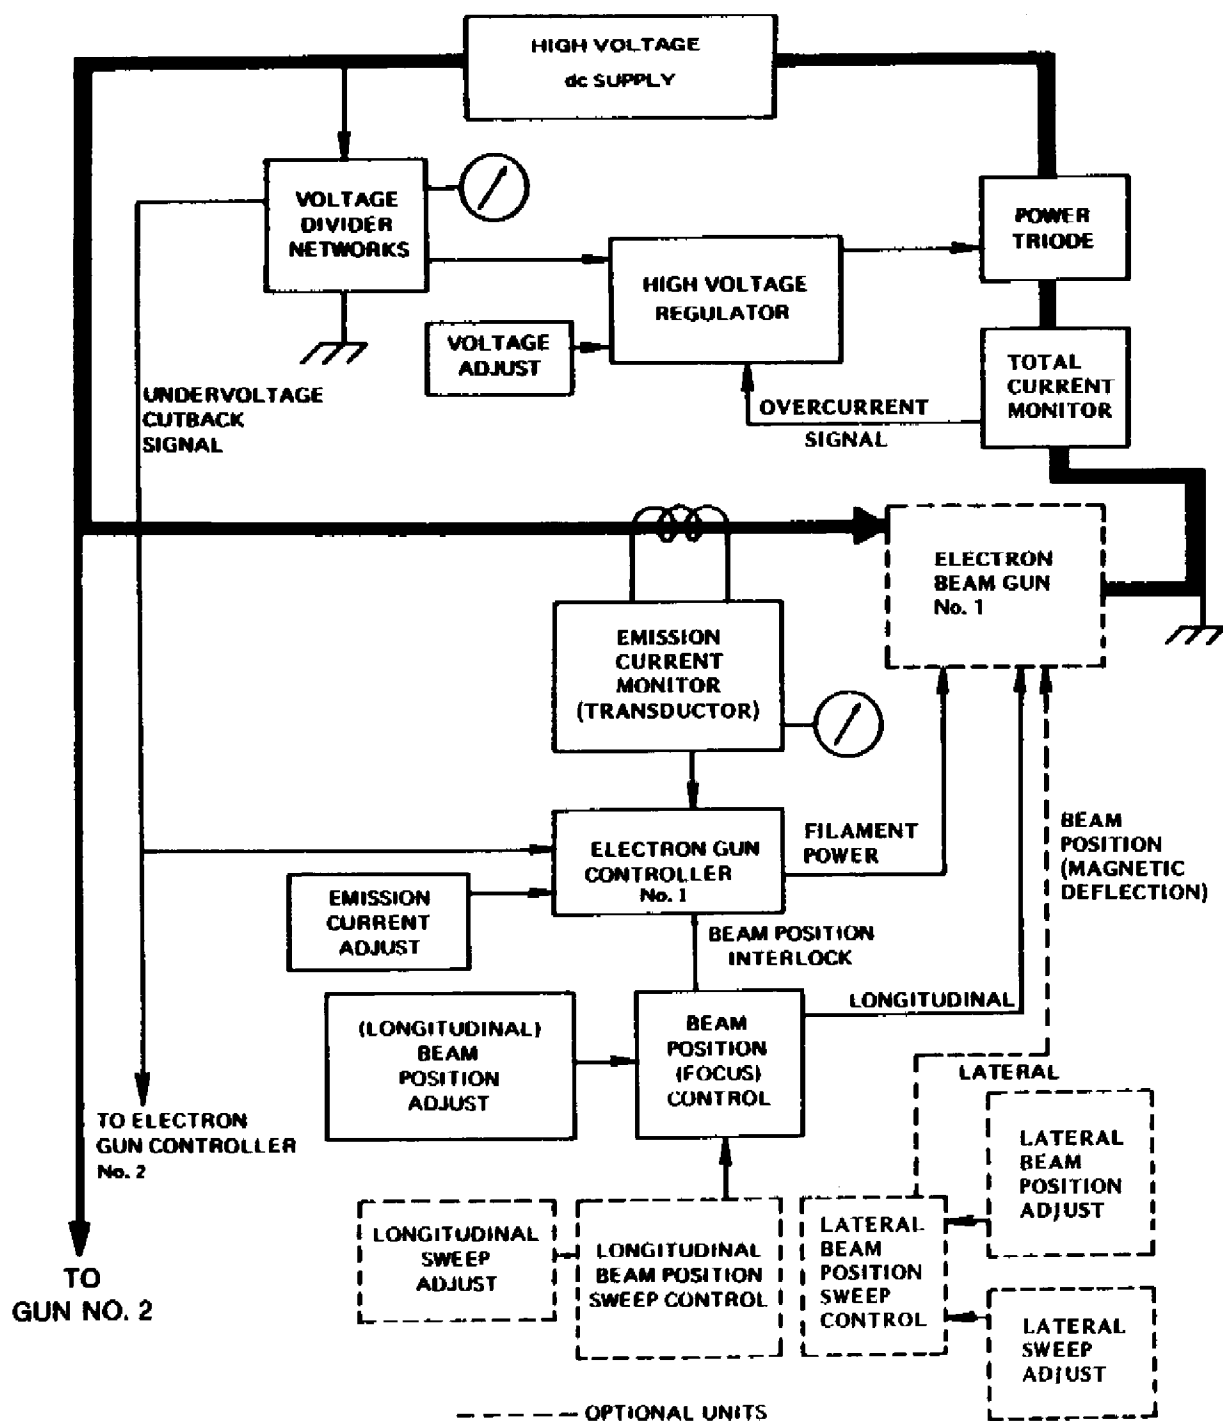

Figure 5-1. CV-8 A and B system block diagram
- 5.1 OVERALL SYSTEM (Figure 5-1)